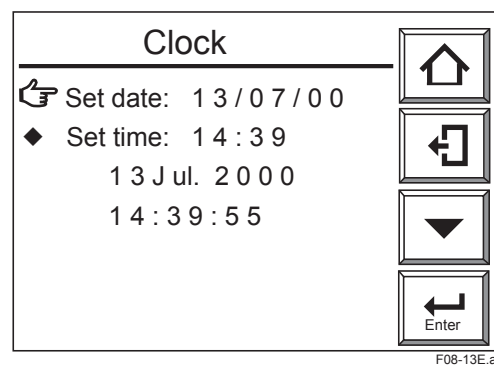

Figure 8.13 Clock Display
- 4) Select the "Clock" and the display of Fig 8.13 appears.
- 5) Select the "Set date" and the numerical entry display appears. To enter June 21, 2004 , enter 210604. Touch the [Enter] key and you revert to the display of Fig 8.13.